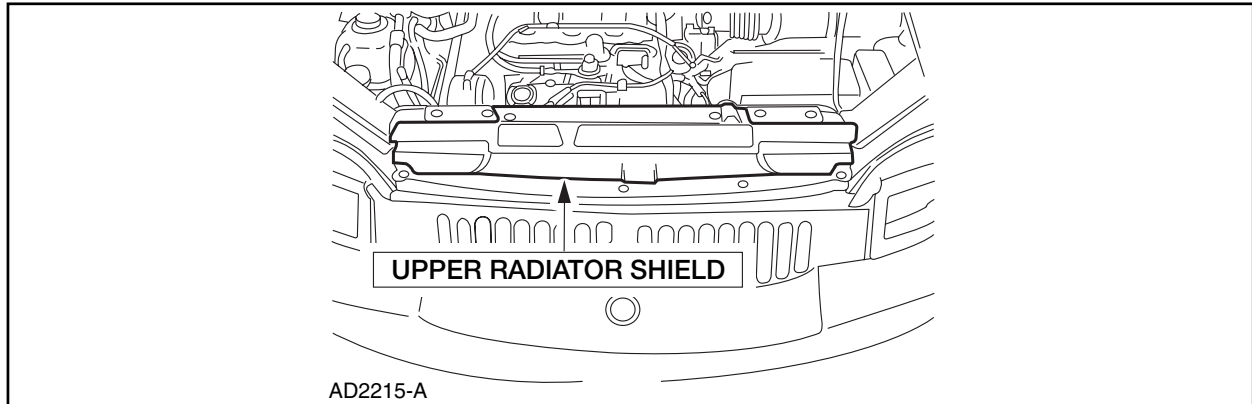

FIGURE 1
1. Remove the upper radiator shield. See Figure 1.